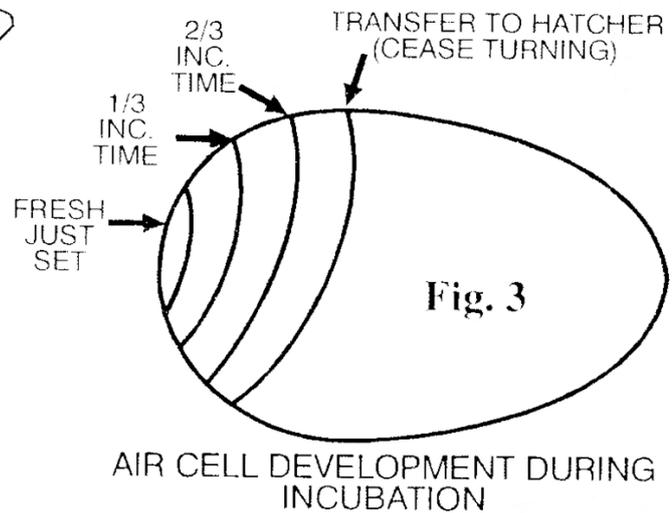

Fig. 3
8. Candling the eggs is a useful technique for assessing the process of incubation. Candling is carried out in a darkened room using a small light source. This can be a torch with a cover attached and a hole about 15 to 20mm diameter. When directed at the large end of the egg the inside of the egg will be illuminated. Look through the side of the egg. This will show the air cell, and the growth of the embryo. The development of the air cell is shown in (Fig 3). The eggs to be candled every 7 days. Any clear eggs, eggs where the embryo is stuck on the shell, or eggs with broken blood vessels should be removed. Experience will show up these eggs. Healthy embryos will show up as a spidery network of veins with a central embryo.